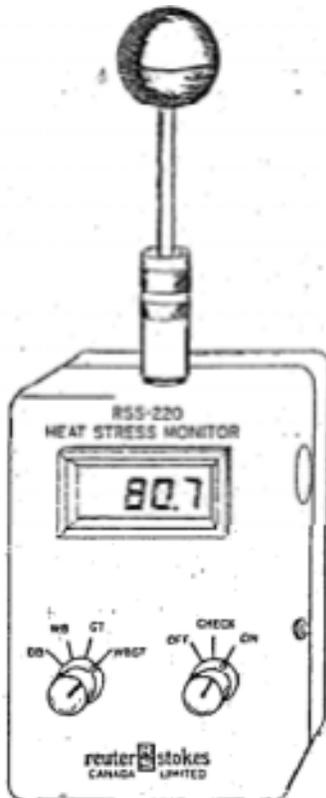

Figure 1.--WBGT Meter.
a. The WBGT Meter (figure 1 of this enclosure) will be the primary means of measuring the WBGT Index at each of the stations. Readings will be taken in the vicinity of the existing WBGT instrument setup. The meter measures the dry bulb (DB), wet bulb (WB), Globe Temperature (GT) and the WBGT in the range between 65°F and 165°F. The present WBGT instrument setup located at each of the stations will continue to be maintained as a secondary means of measuring the WBGT should the meters fail.